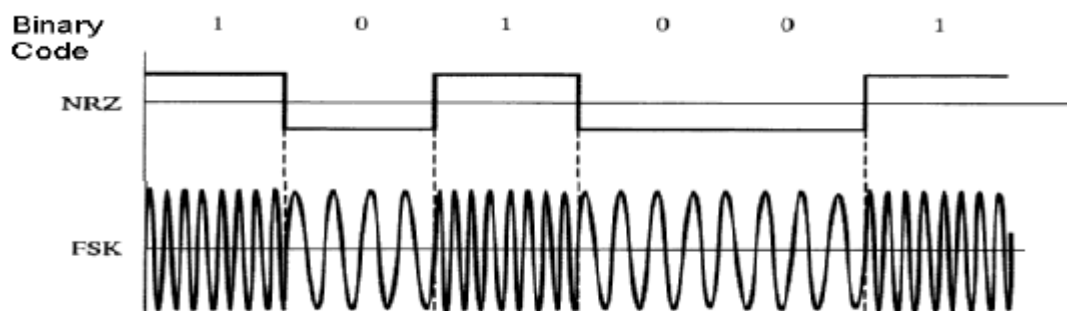

Fig 2. FSK waveforms
7. Observe FSK modulated signal at OUT1 post. Compare it with DATA. It is similar to fig 2 shown above.